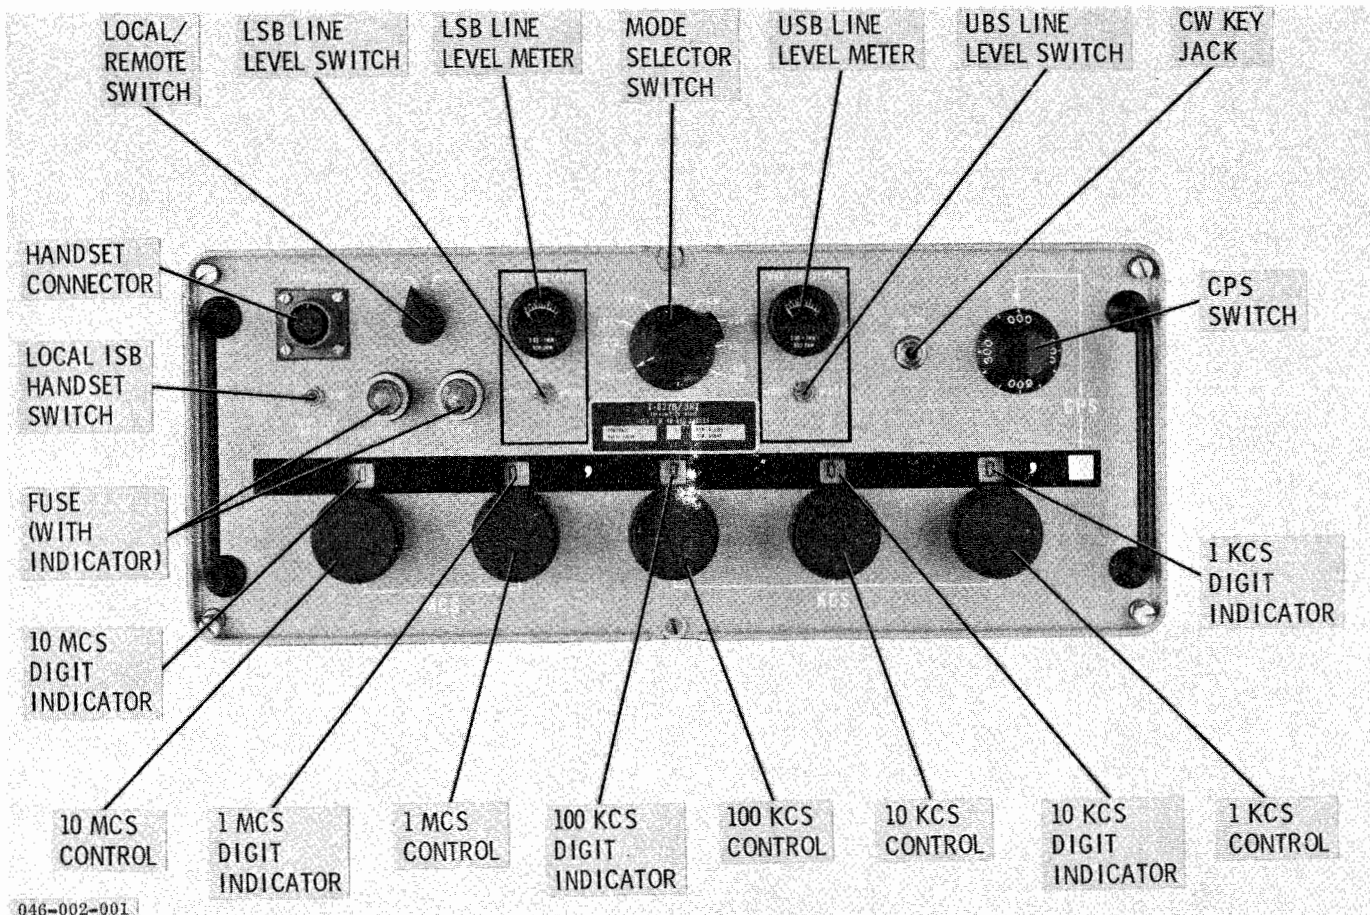
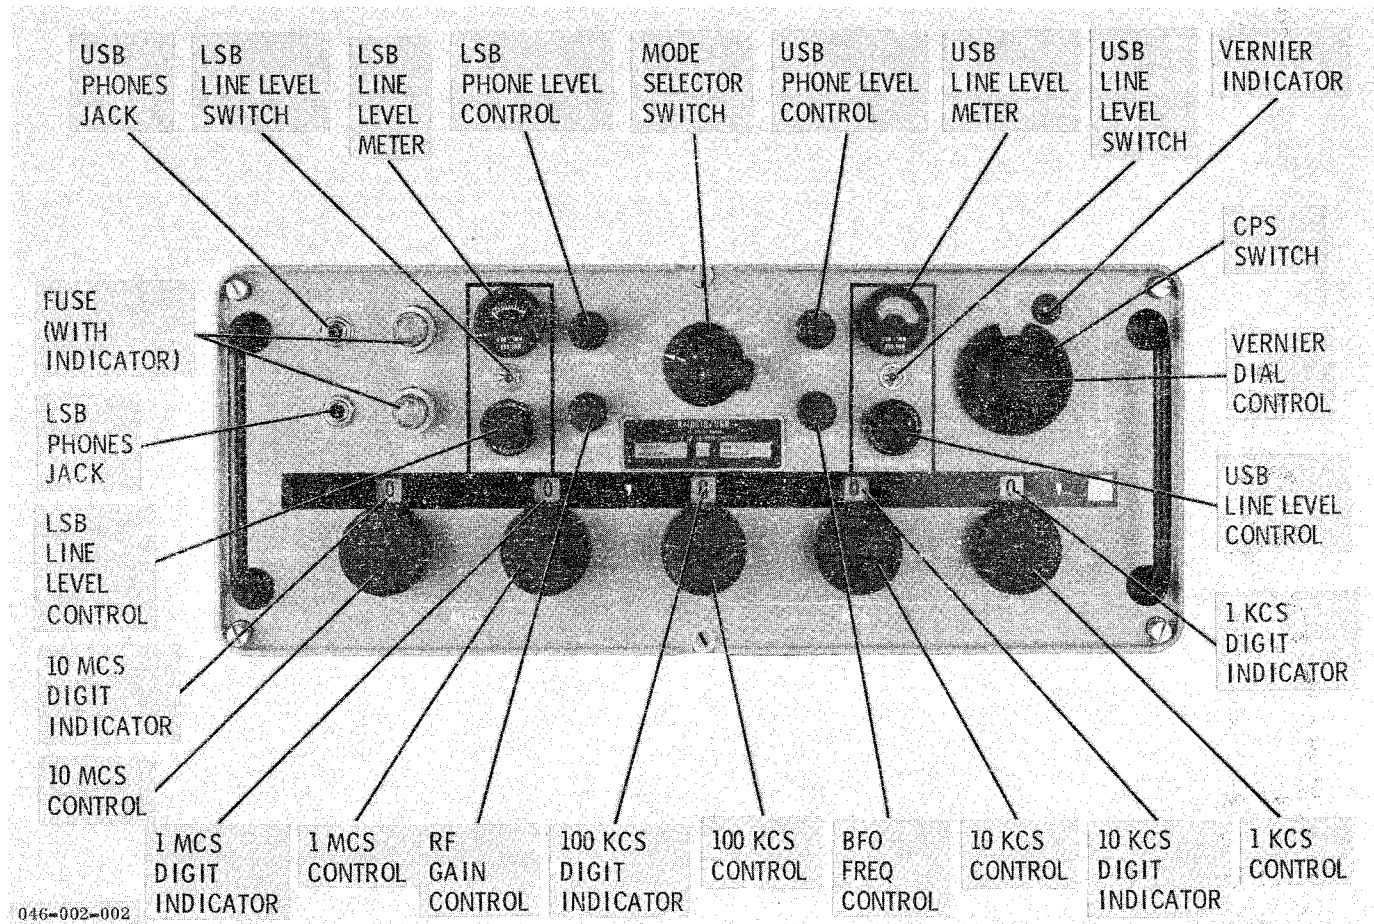

Figure 2-1. Radio Transmitter T-827B/URT, Operating Controls, Indicators, and Connectors
Figure 2-2. Radio Receiver R-1051B/URR, Operating Controls, Indicators, and Connectors
required for normal operation of the AN/WRC-1B system are located on the front panels of the T-827B/URT (figure 2-1), the R-1051B/URR (figure 2-2), and the AM-3007/URT (figure 2-3), and are listed in tables 2-1 through 2-3, respectively.
a. Set AM-3007/URT PRIMARY POWER circuit breaker at ON and set T-827B/URT Mode Selector switch (figure 2-1) at STD BY. Set these switches prior to operation to allow T-827B/URT frequency standard to come up to temperature. Allow a 20-minute warmup period of general operation and at least a 60-minute warmup period for optimum frequency stability.
Until operator becomes proficient at fine tuning procedure, complete CU-937/UR tuning cycle should be performed for any frequency change of 100 kHz or more. The tuning cycle is initiated by rotating transmitter 10 MCS control (figure 2-1) one position. When the ANT CPLR TUNE indicator extinguishes then start fine tuning procedure below.
a. Set LOCAL/REMOTE switch (figure 2-1) at REMOTE, and follow procedures outlined in paragraphs 2-12 and 2-13.
(See Figure 2-1)